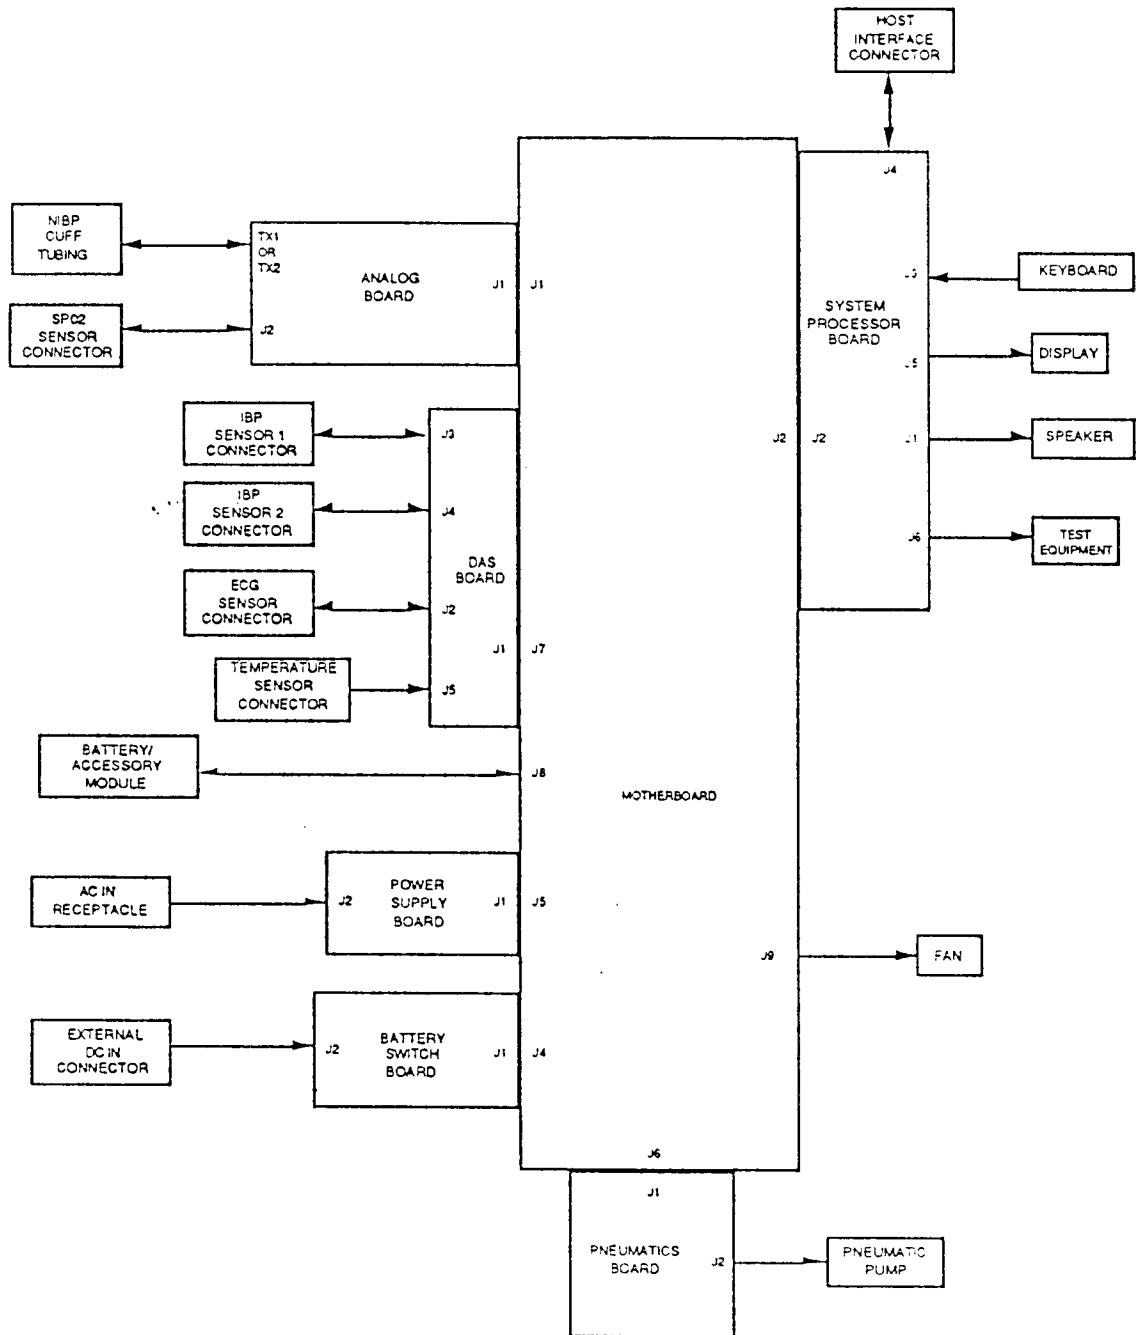

Figure 3-3. Model 8720 Interconnection Diagram
2. Prepare the lower frame assembly for joining with the upper frame. Ensure that all circuit boards, fan assembly, and connectors have been installed as shown in Figure 3-3 and Figure 4-2. Connect the green color coded tubing from the sensor on the analog board to the green coded coupling on the pneumatics board. Ensure that the protective sleeve on this line is positioned at the cutout of the system processor board. Ensure that the tubing couplings of the pneumatics board are grouped closely together to allow the upper frame to pass around the pneumatics board when the two frames are joined.